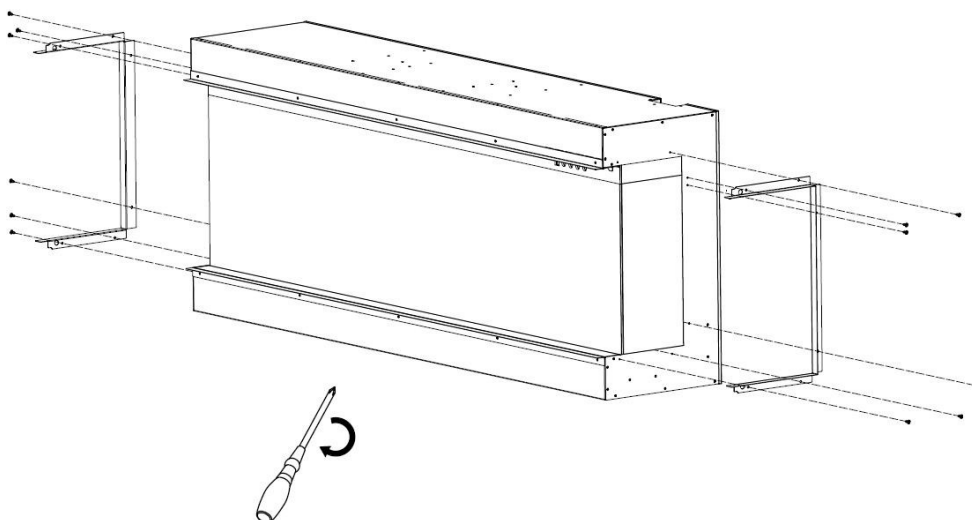

Fig.2-4
3. Fix back the fending bars after the panels are removed. Fig.2-4